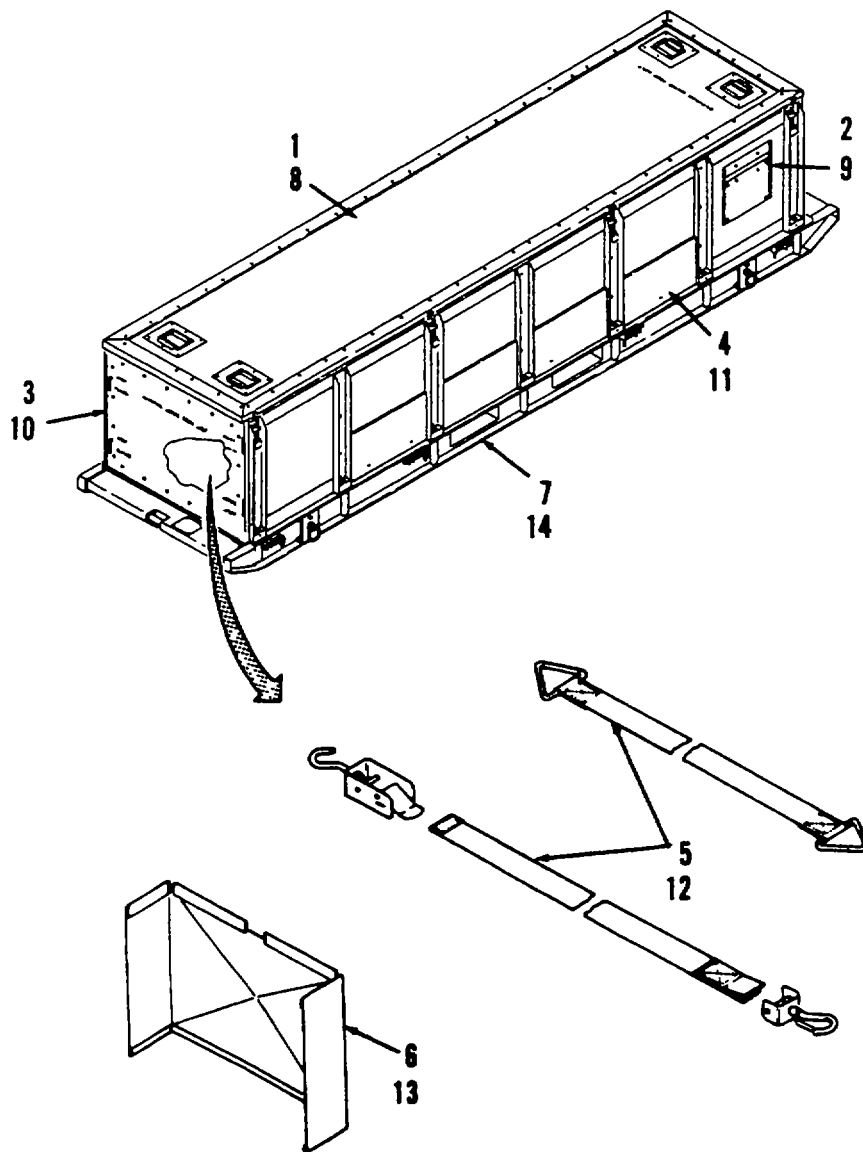

Figure 2-2. Operator's Preventive Maintenance Checks and Services Routing Diagram.
- a. Your Preventive Maintenance Checks and Services, Table 2-1, lists inspections and care to keep your WTSC in good operating condition. Use Figure 2-2 as a routing diagram to perform your PMCS procedures. It is set up so you can make your BEFORE (B) Operation checks as you perform a general examination of the WTSC.